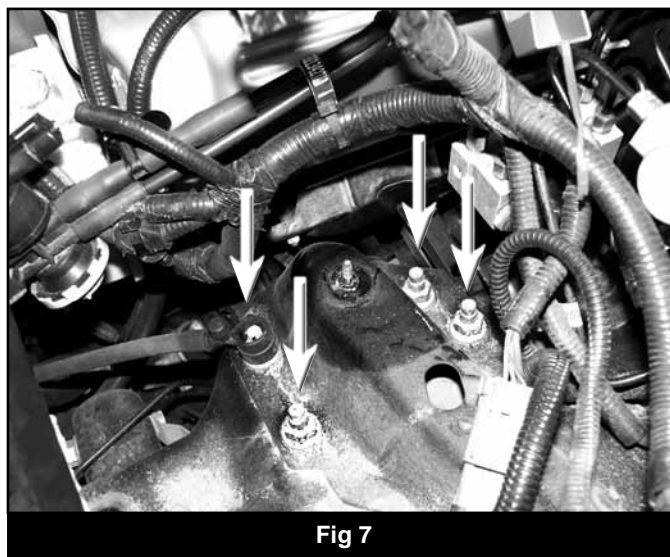

Fig 7
17. From inside the engine compartment, remove the four upper strut plate retaining nuts (Fig 7).